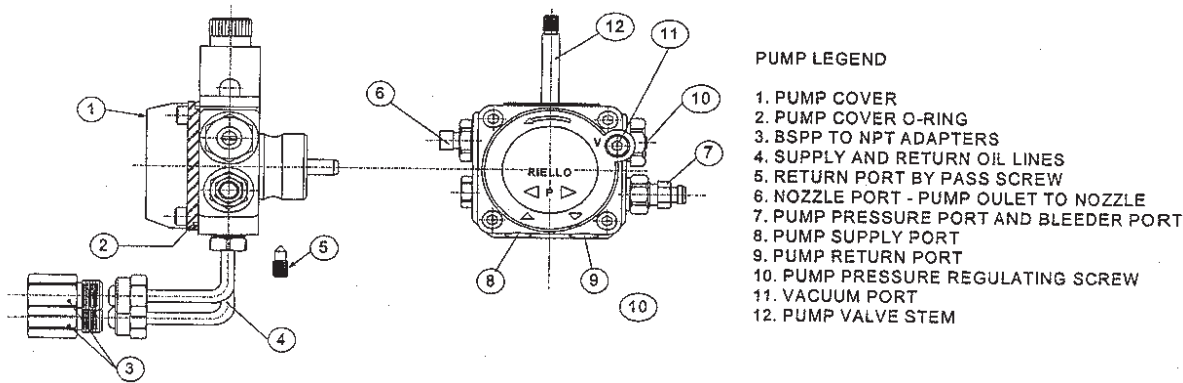

Figure 9: Pump Connections and Port Identification
g. Pump Connections and Port Identification, refer to Figure 9.